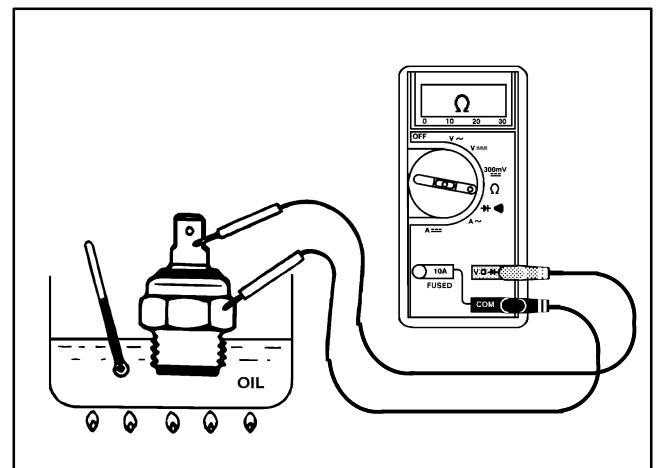

Figure 67
3. Put the end of the switch in a container of oil with a thermometer and slowly heat the oil (Fig. 67).